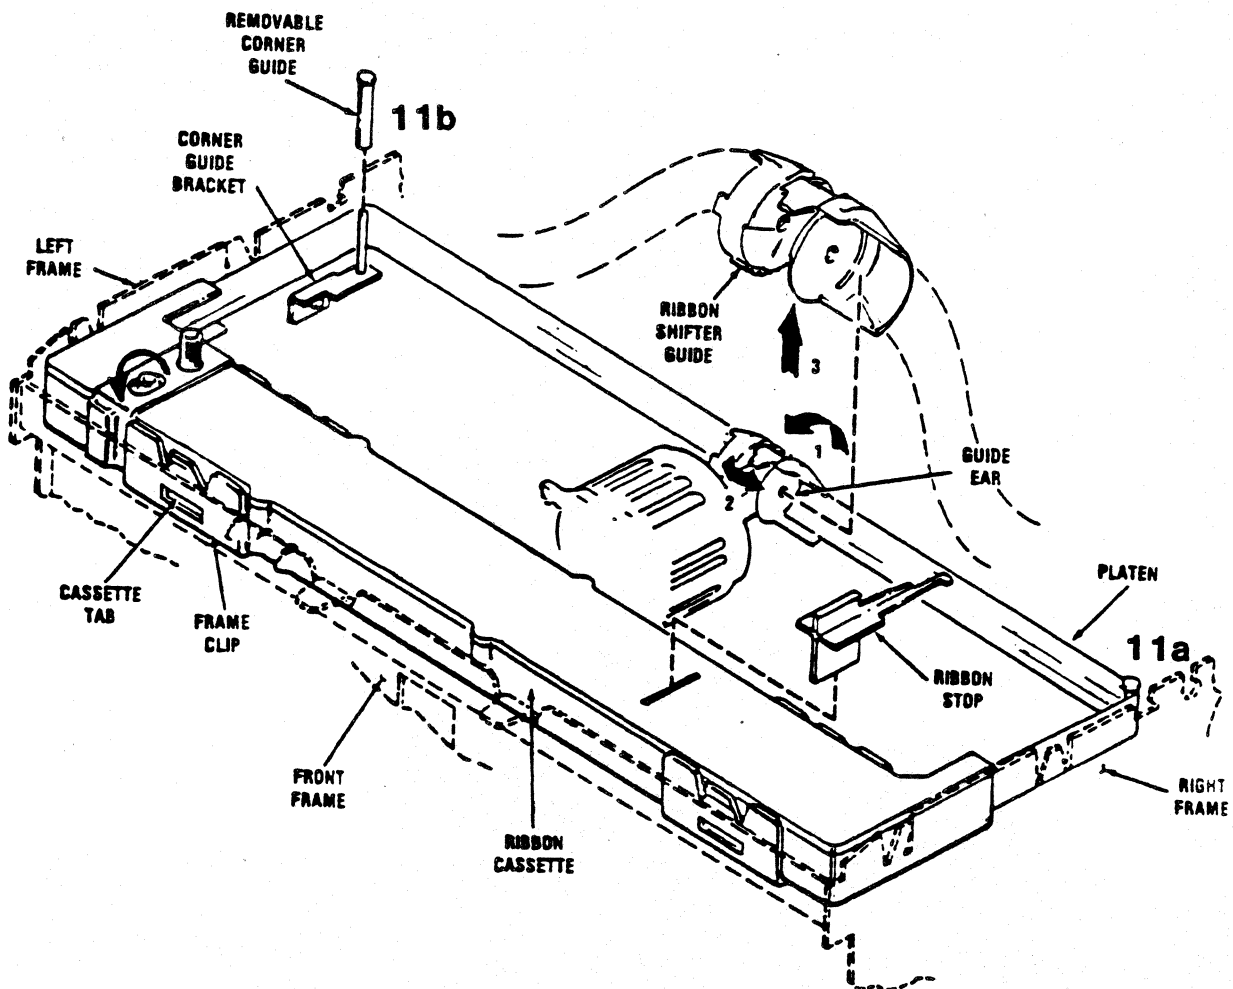

Figure 1-9 Loading the Ribbon Cassette
7. Install the new corner guides. To install, simply push the guides onto the guide posts. (See Figure 1-9)
12. Turn the knob on the cartridge counterclockwise to take up slack in the ribbon. (See Figure 1-9)